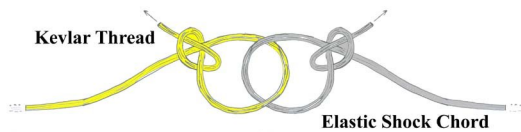

Figure 6
- **Step 8** Pull the Kevlar thread back through the tube and out the top end. As shown in Figure 6, tie a slip knot in the free end of the thread. Run one end of the elastic shock chord through the loop and tie a slip knot in the elastic. Pull these knots tight against each other, and coat the knot with a layer of thinned yellow glue to lock the knot. Allow to dry, then attach the other snap link to the free end of the elastic chord.